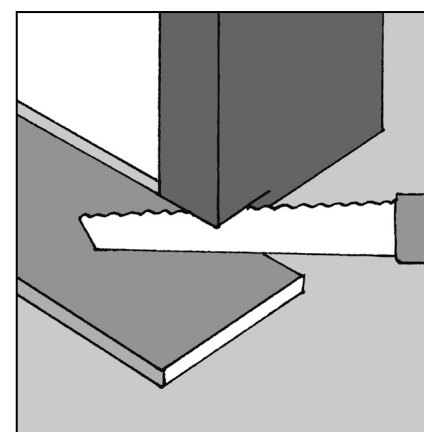

Figure 57 Door Frames/Architraves
- > When installing interlocking flooring around a door frame, or architrave cut into the door frame or architrave with a handsaw; using an off cut plank as a guide for the height and the amount to trim off the door frame (Fig 57). Slide the cut piece under the door frame. Leave a minimum 2mm gap between the top surface of the plank and the underside of the door frame/architrave to allow for any natural movement of the panels.